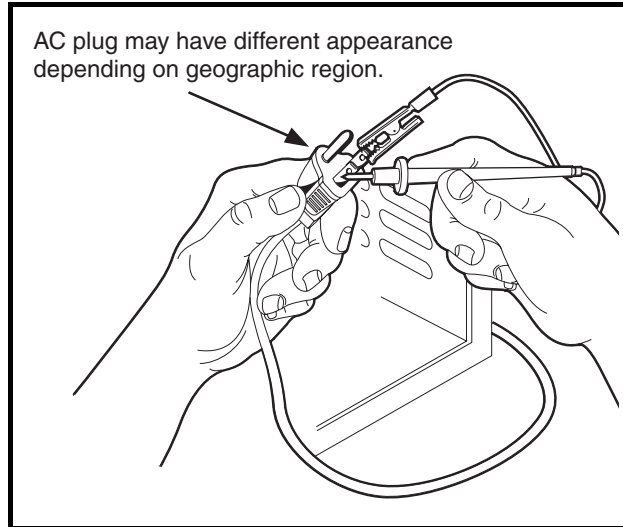

Figure 5-10 AC Cord Test
- 5.3. With relay bypassed, there should be continuity across the AC cord blades (**Figure 5-10, Page 5-18**).